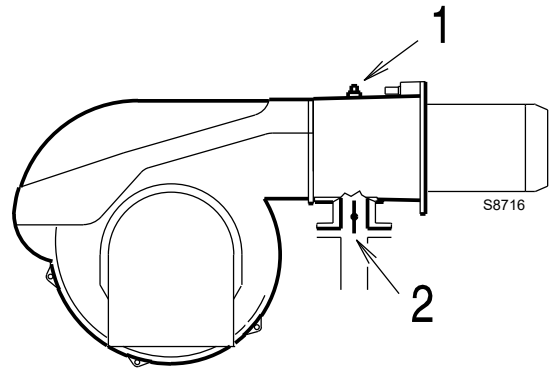

Fig. 22
Gas pressure measured at the test point 1)(Fig. 22), with:
Pressure loss at gas butterfly valve 2)(Fig. 22) with maximum opening: 90°.
- subtract the combustion chamber pressure from the gas pressure measured at test point 1)(Fig. 22).
| Gas pressure at test point 1)(Fig. 22) | = | 8.0 mbar |
To calculate the required gas pressure at test point 1)(Fig. 22), set the maximum modulating output required from the burner operation:
- Read, on the right (column 1), the pressure at the test point 1) (Fig. 22).
pressure required at test point 1)(Fig. 22).